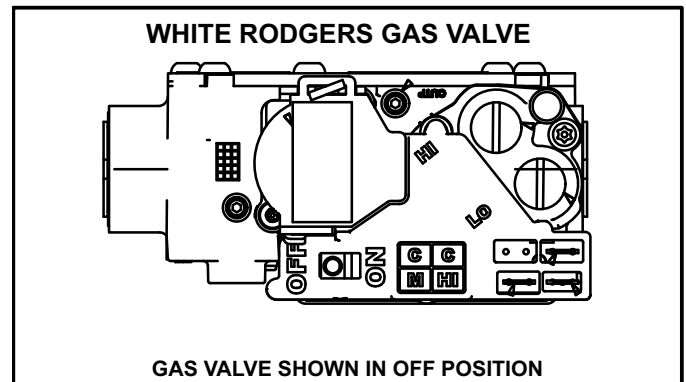

FIGURE 2
Operating the Gas Valve (Figures 2)
- 6 - Move switch on gas valve to **OFF**. Do not force. See figure 2.
- 8 - Move switch on gas valve to **ON**. Do not force. See figure 2.
- 4 - Move switch on gas valve to **OFF**. Do not force. See figure 2.